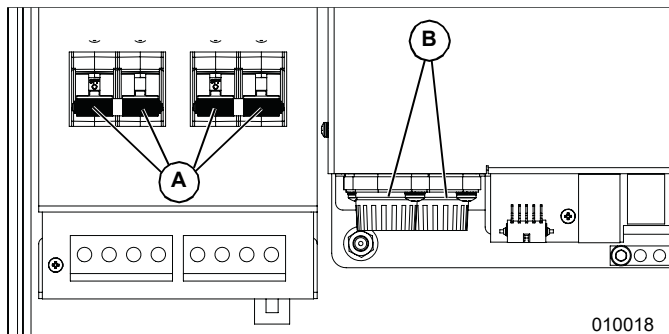

Figure 8-2. Removing Wiring Compartment Cover
5. See Figure 8-2. Locate DC fuse holders (B).